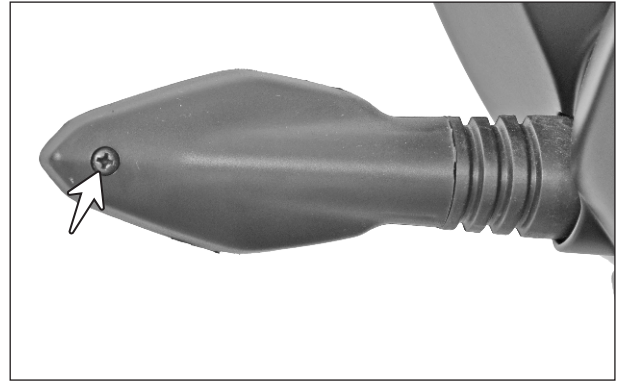

Fig. 5.44
- Remove the self tapping screw from turn signal lamp housing and take off lens along with the holder assembly and bulb. (Fig. 5.44)